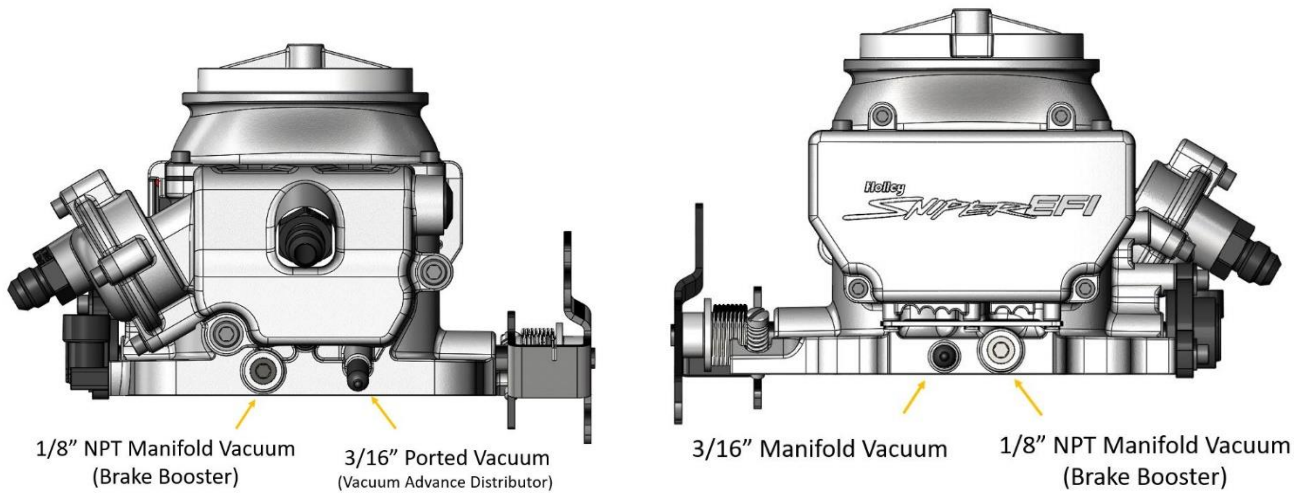

Figure 2
- Reconnect the appropriate vacuum hoses to the Sniper EFI throttle body. Use 3/8" hose barb to 1/8 NPT fitting that is included in your kit for the brake booster. **Be sure to plug any vacuum sources not used on both the Sniper EFI Throttle Body and on the Engine.** See Figure 2 for diagram of vacuum ports.